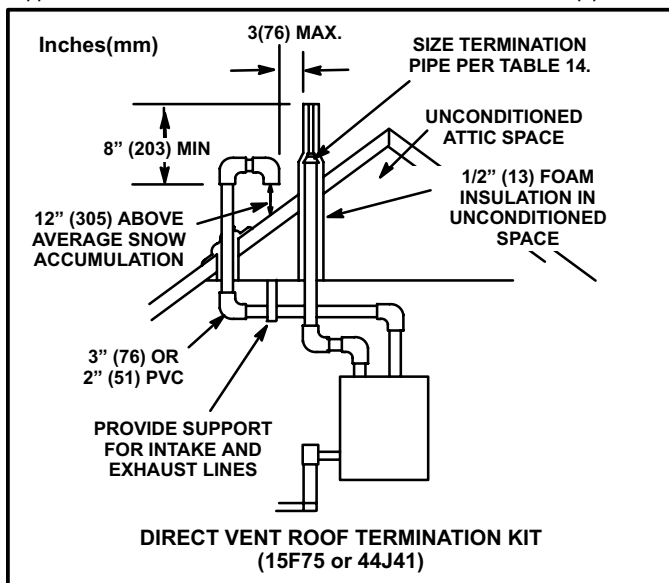

FIGURE 24
Intake and exhaust pipes may be routed either horizontally through an outside wall or vertically through the roof. In attic or closet installations, vertical termination through the roof is preferred. Figures 24 through 32 show typical terminations.
3. On roof terminations, the intake piping should terminate straight down using two 90° elbows (See figure 24).